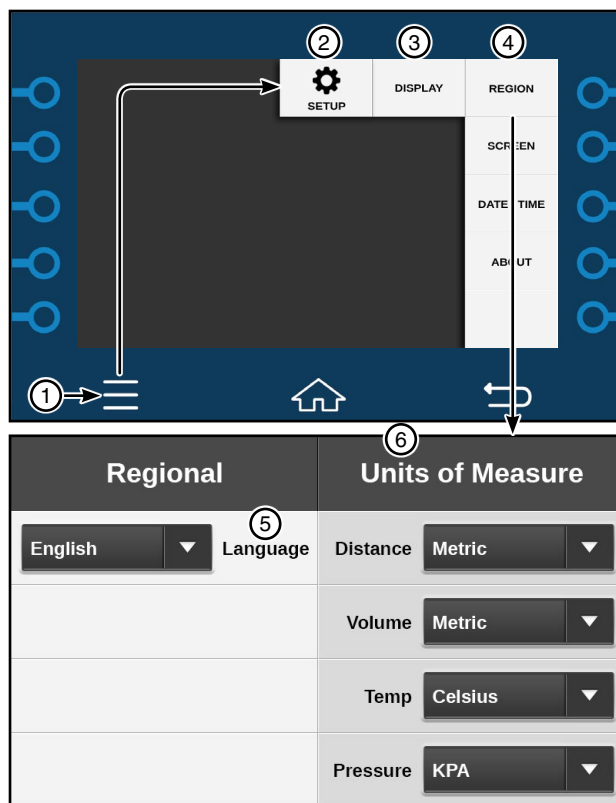

Figure 31-1 1. Menu 4. Region
1. On the Region screen set the Language, Numeric Format and Units of Measure for Distance, Volume, Temperature and Pressure. See Figure 31-1.
2. Use Screen to adjust the Screen Brightness and Display Speed delay timer. See Figure 31-1.